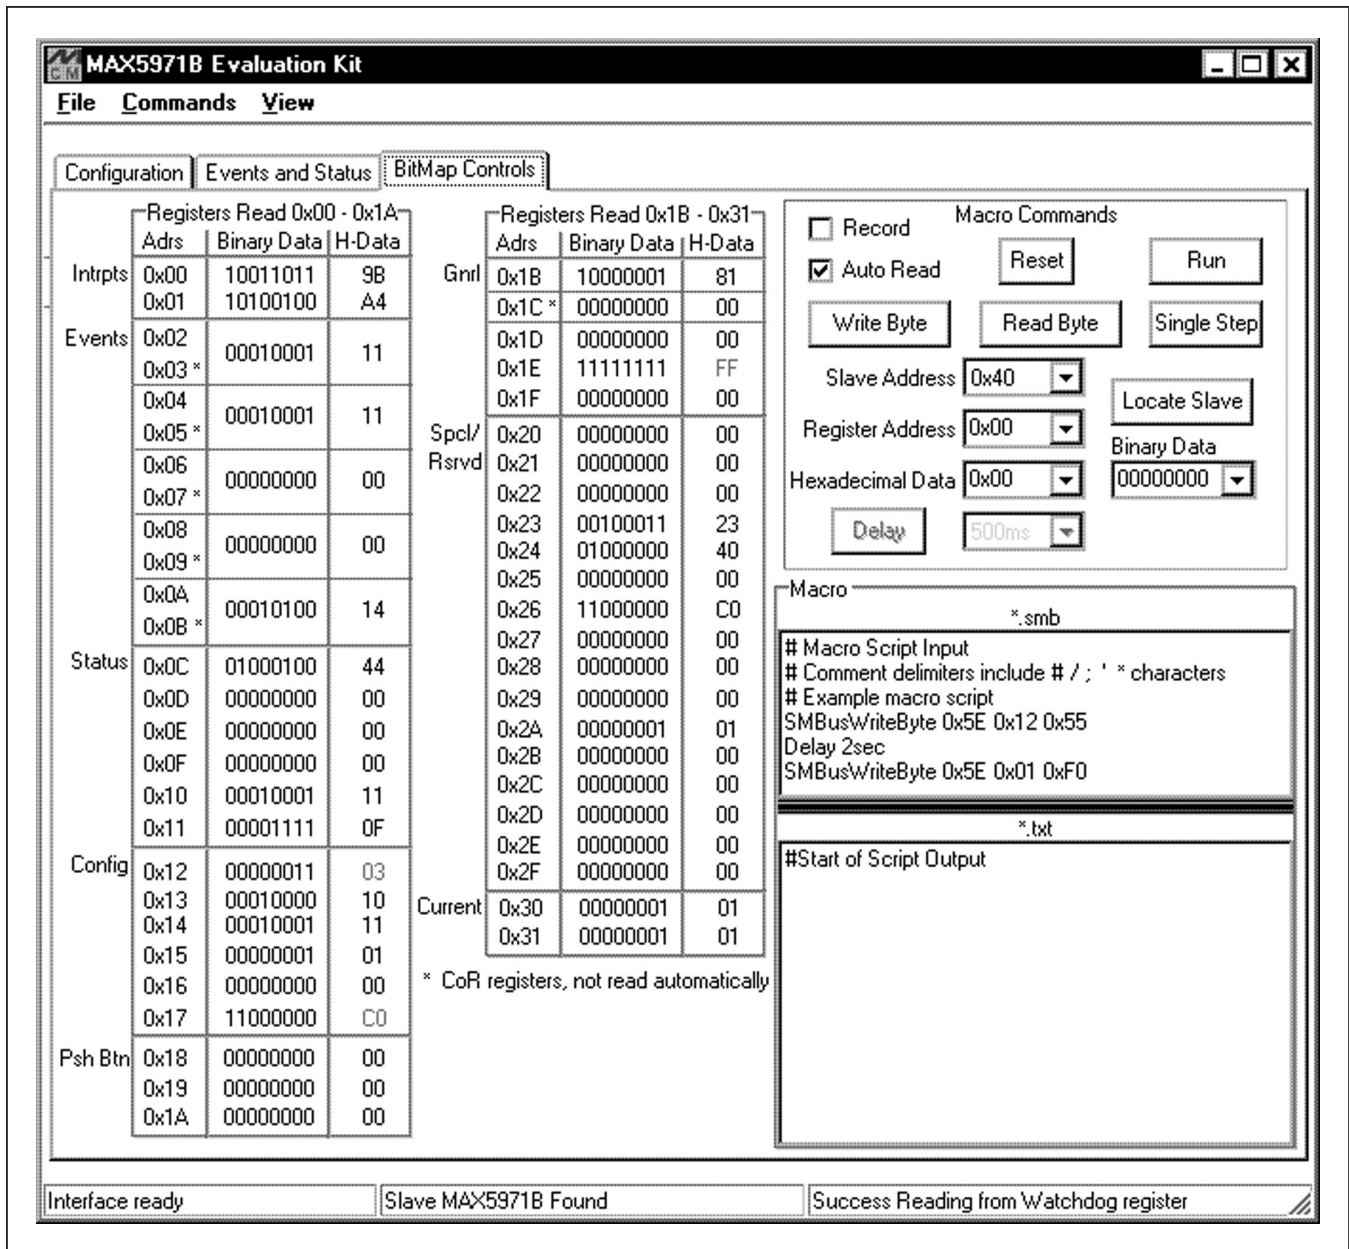

Figure 3. MAX5971B EV Kit Software (BitMap Controls Tab)
- 13) Select the **BitMap Controls** tab at the top of the GUI (Figure 3).
The **BitMap Controls** tab (Figure 3) provides a bit-level method of configuring the EV kit as a single-port PSE. The IC's register contents are placed on the appropriate line of the **Register Read** tables in binary and hexadecimal format. If data changes between the next register read, the updated register hexadecimal data is displayed in red and blinks four times. The blink rate can be changed in the **Commands | Red Hex Data Blink Rate** menu bar. The status bar at the bottom left of the main window indicates the USB interface circuit status. The center status bar indicates the current EV kit and macro engine status.